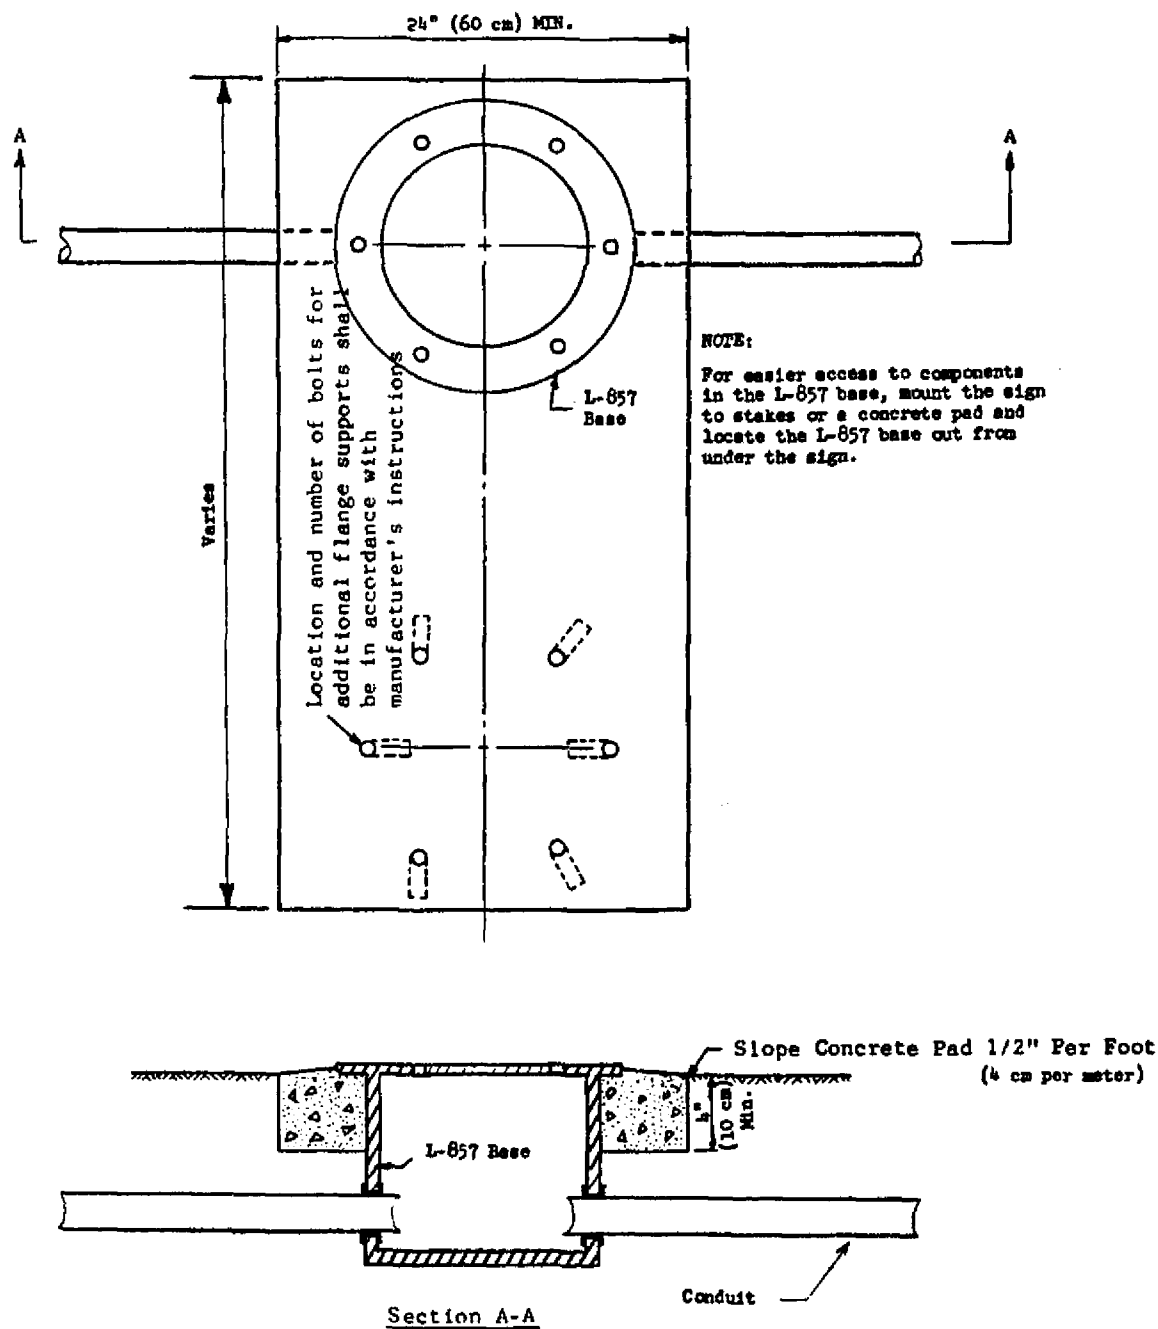

Figure 4. Typical concrete sign base.
- (1) General. Provide destination signs for both inbound and outbound taxiing routes where required as shown in Appendix 2, Figure 4(c).
- (1) Location of Signs.
- (a) Sign Substitution for Existing Elevated Taxiway Lights. At all intersections where there are existing elevated taxiway lights, replace either the single taxiway light or the double "Entrance-Exit" lights located opposite the point of tangency of the paving fillet with a sign. See Appendix 2, Figure 4(b)(1).
(b) New Construction. At all intersections of taxiways or aprons in new construction, locate the sign opposite the point of tangency of the paving fillet so that the side of the sign closest to the taxiway or apron edge is not less than 10 feet and not more than 20 feet from such edge. See Appendix 2, Figure 4(b)(2). At intersections of taxiways with runways, locate the "Entrance-Exit" signs as shown in Appendix 2, Figure 4b(3).